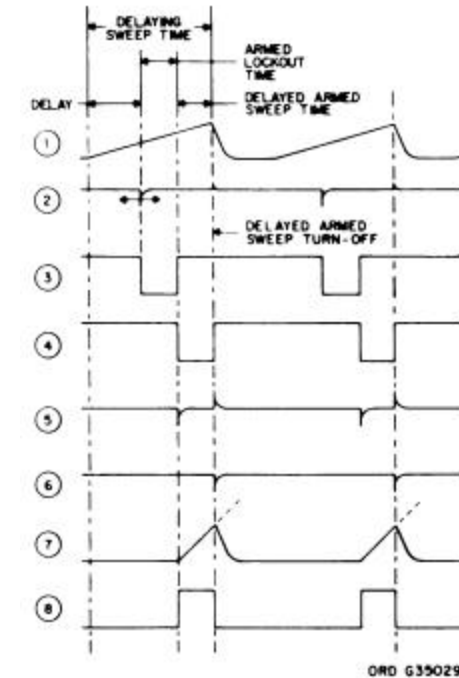

Figure 3-11. Armed-strobe mode waveforms.
(3) You will notice that there is also a voltage divider (R8146, R8147) at the pulse-input side (cathode) of diode CR8104. However, the value of R8147 is negligible compared to R8146, and the network produces a very small positive voltage which the negative pulse can easily overcome to trigger the armed multivibrator. Capacitor C8122 shunts any transient pulses that may be generated.
(4) In its quiescent state, Q8103 of the armed multivibrator is cut off and Q8104 is conducting. With Q8103 cut off, a positive voltage (gate) is applied to armed lockout diode CR8102, reverse-biasing the diode. In this state, the diode prevents any incoming trigger signals from firing the delayed-sweep gate multivibrator. At the same time, switching transistor Q8102 (zone D7) receives the positive output from the armed multivibrator and conducts heavily. When the switching transistor conducts, SWP READY lamp DS8101 is shunted to ground, preventing the lamp from lighting.
(5) When the negative pulse output of transformer T8601 passes through diode CR8104, it triggers the armed multivibrator, changing the operating state of the multivibrator. In this state, Q8103 conducts and Q8104 is cut off. Now armed lockout diode CR8102 receives a negative voltage and becomes forward-biased. Forward-biasing the armed lockout diode opens the trigger circuit, making it possible for the next trigger signal to fire the delayed-sweep gate multivibrator and start the delayed sweep. The delayed sweep circuit as well as the strobe circuit operate in exactly the same way as described in a above.
(6) In addition to forward-biasing diode CR8102, the negative-voltage output of the armed multivibrator cuts off switching transistor Q8102. With the transistor cutoff, the SWP READY lamp is no longer shunted to ground and it lights. This indicates that the delayed-sweep gate multivibrator is *armed* and will fire upon receiving the next trigger signal.
(7) When the delayed-sweep gate multivibrator is triggered, it produces a negative-gate output at Q8107. The negative-gate is then differentiated by C8118, R8143 (zone D8) and the negative pulse, representing the leading edge of the gate, passes through diode CR8103 to trigger the armed multivibrator. When the armed multivibrator is triggered, it reverts to its original operating condition.
(8) Let's briefly summarize the detailed description of the armed-strobe mode, using the waveforms in figure 3-11. The first waveform shows the output of the normal sawtooth generator that goes to the horizontal amplifier and the comparator stage in the delay trigger pick-off circuit. Waveform 2 shows the inverted-differentiated output of the differentiating amplifier, which triggers the armed multivibrator after passing through a pulse transformer and a diode. When the armed multivibrator fires, it produces a negative gate, shown in waveform 3, which forward-biases- (unlocks) the armed lockout diode. This permits the next trigger to fire the delayed-sweep gate multivibrator.
(9) When the delayed-sweep gate fires, the negative-gate output, as shown by waveform 4, goes to the delayed sweep Miller integrator via the disconnect diodes, and to the armed multivibrator via a differentiator network and a diode. The negative pulse of the differentiated signal, shown by waveform 5, triggers the armed multivibrator, reverting it to its initial state.